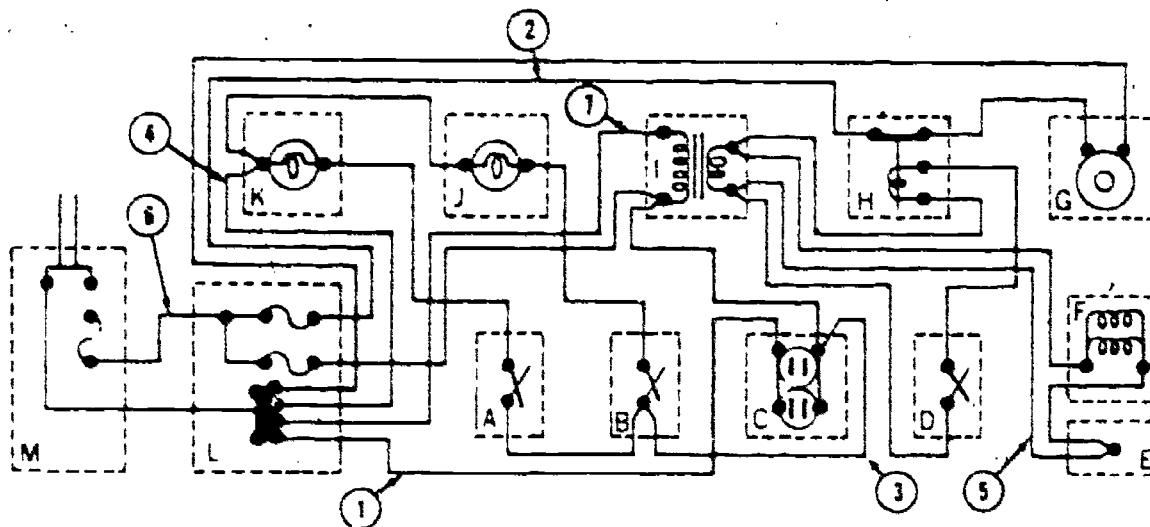

Figure 24. 120 V Single Phase
1. The wires on the diagram in figure 24 have been numbered 1 through 7. By each numbered wire below, list the unit by letter that would be inoperative if that specific wire were open. (Study the diagram carefully.)